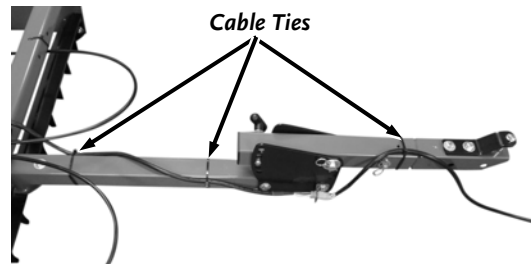

Figure 31
54. Use the remaining Cable Ties to secure the Harnesses to the Tow Bar and Pitch Bar (**Figure 31**).